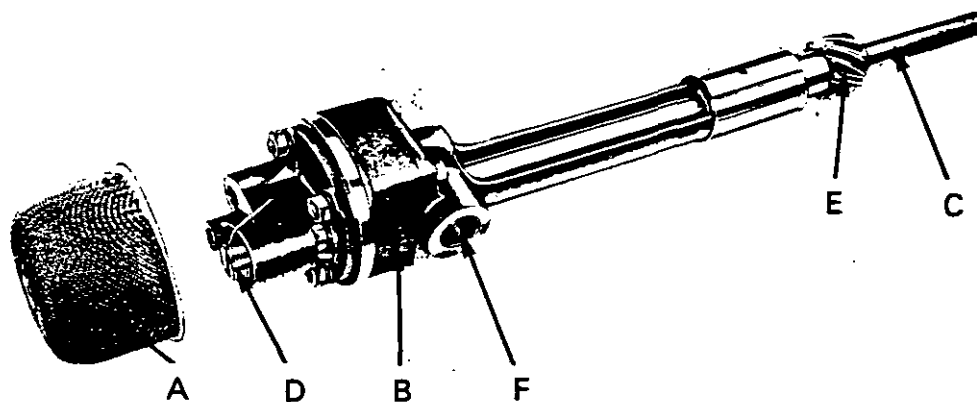

Figure 48. LUBRICATING OIL PUMP
1. Remove the two setscrews and two bolts securing pump cover, noting that the two bolts are special locating bolts and must be fitted in their correct places when reassembling. (Fig. 48.)